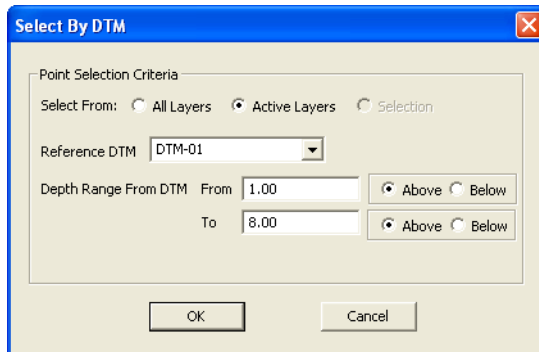

Figure 6-18. Select by DTM Dialog Box
1. Click **Edit** ► **Select By DTM** from the **Edit** menu. The *Select By DTM* dialog box appears (Figure 6-18).